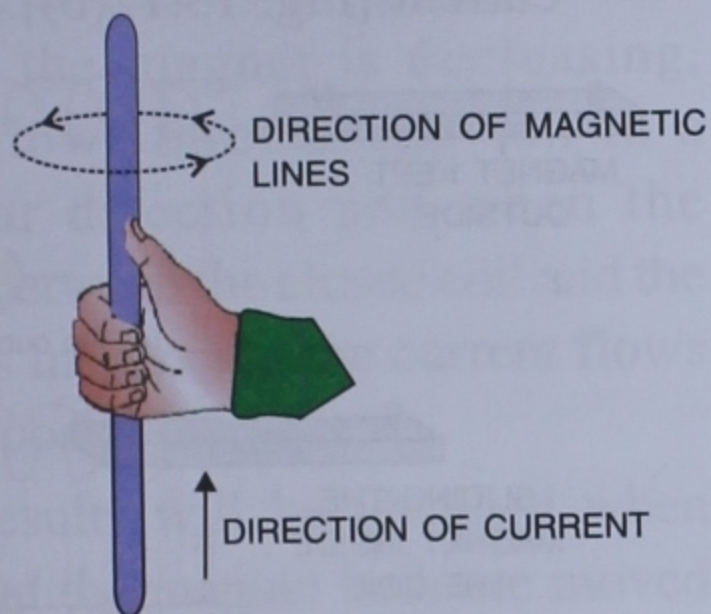

Fig. 13.8 Right hand thumb rule
- (1) **Right hand thumb rule** : When we hold current carrying straight conductor in the right hand in such a way that the thumb points in the direction of the current, then the direction of fingers holding that conductor gives the direction of magnetic lines as shown in Fig. 13.8. In this case, the direction of current in the conductor is upwards. The magnetic lines around the conductor are anticlockwise (from above) around the conductor as shown in the figure.